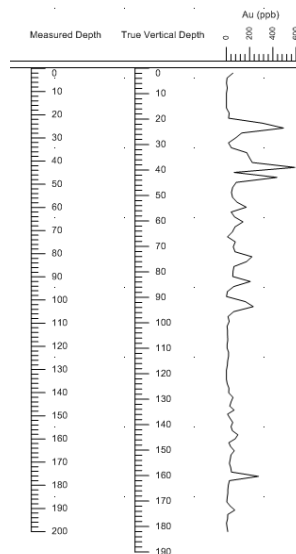

Figure 1.232 – Scale of Measured and True Vertical Depths
- b. In the **Text Editor**, type *Measured Depth* and click *OK*, fig. 1.232;